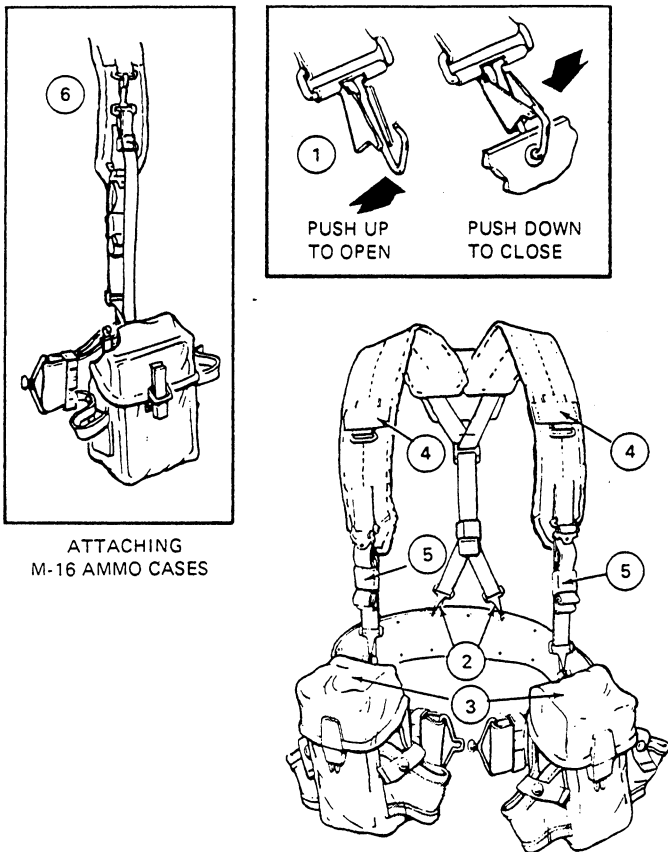

Figure 2-5.—Attaching the suspenders to the ammo pouches and pistol belt.
2. Ammunition pouches (item 2 of fig. 2-2). Each small-arms ammunition pouch is 4 1/4 inches wide, 6 1/4 inches high, and 2 1/2 inches deep. Plastic stiffeners are provided in the back of each pouch, so the clips of ammunition can be easily inserted and removed. There are two attaching clips and supporting straps on the back of the pouch, so they can be fastened to the pistol belt and to the suspenders. (See fig. 2-5.) Both sides of each ammunition pouch have attachments for carrying hand grenades. The pouches are designed to carry any of the basic loads of ammunition; however, with special weapons it may be necessary to carry more ammunition than the pouches can hold. When extra ammunition is needed, bandoleers of ammo may be carried in a cross-chest manner. To place bandoleers in pouches, make a neat bundle by folding the bandoleers accordion fashion and placing them in the pouches with the bandoleer strap on the top. This method permits the bandoleer to be inserted and removed easily.
The following six steps used in attaching suspenders to the ammunition pouch and belt correspond to the six actions shown in figure 2-5: